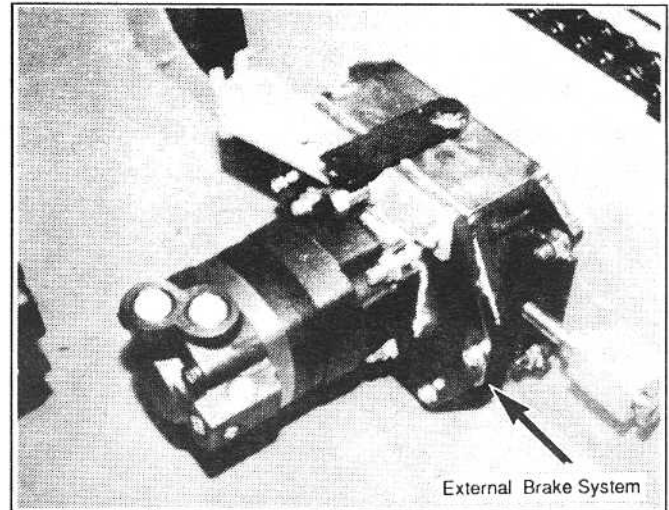

Figure 5-8
- 5a. 930 units prior to S/N 9301900, 940 units prior to S/N 9405759 and 960 units prior to S/N 9603401 have the brake system located outside of the chain case. (See figure 5-8) The drive motor is mounted to the brake housing with four (4) 1/2 inch flanged tooth lock nuts. DO NOT REUSE as the locking teeth usually do not hold after the nut has been removed.